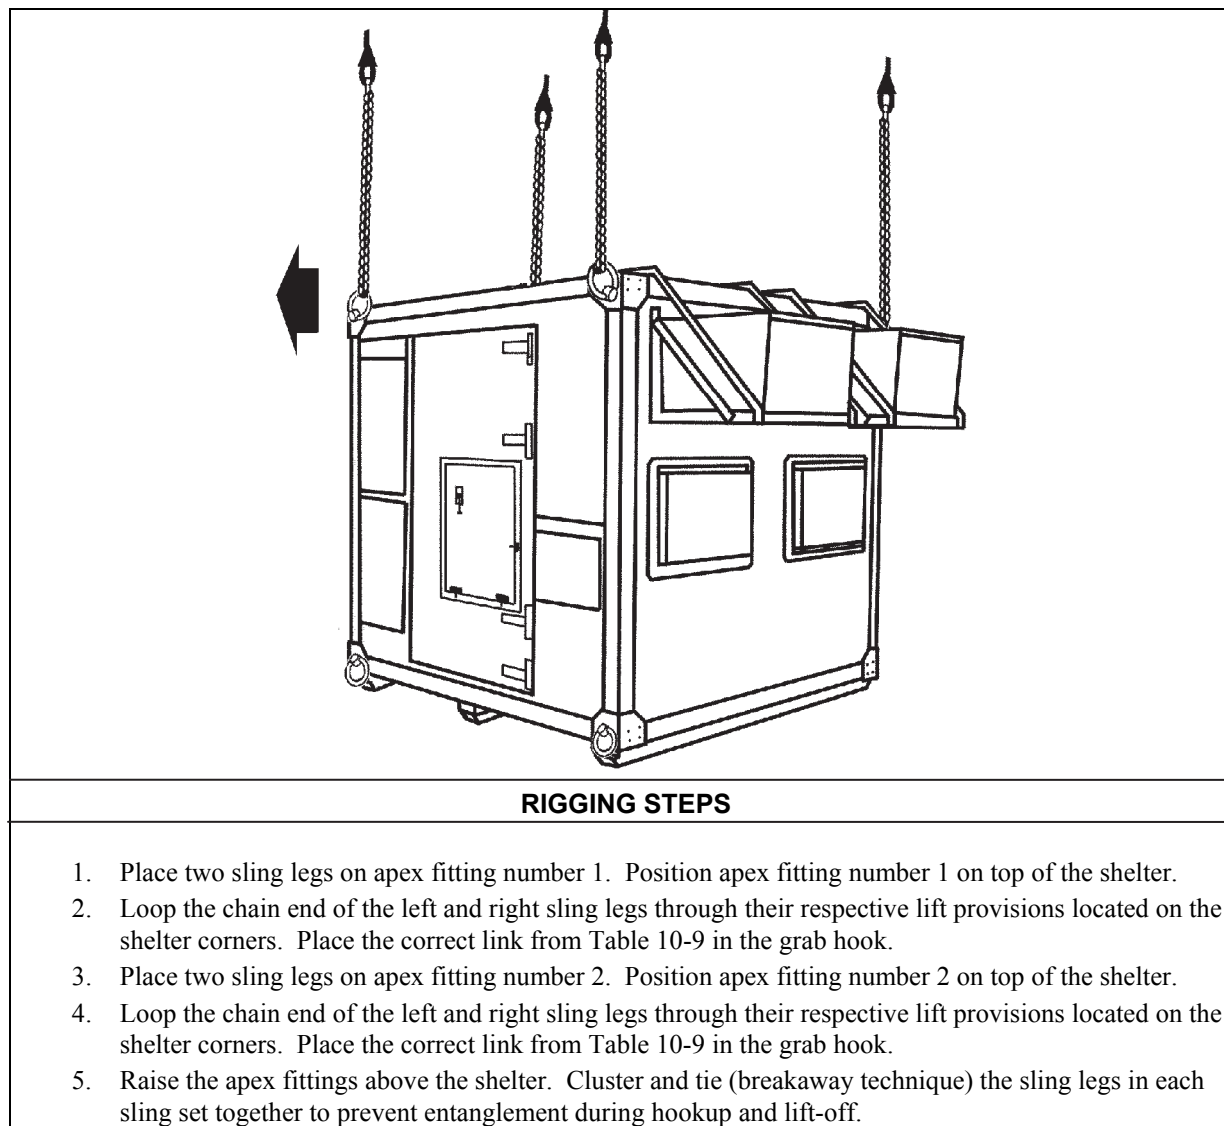

Figure 10-9. Downsized Digital Group Multiplexer Assemblages
- **Rigging.** Rig the load according to the steps in Figure 10-9.